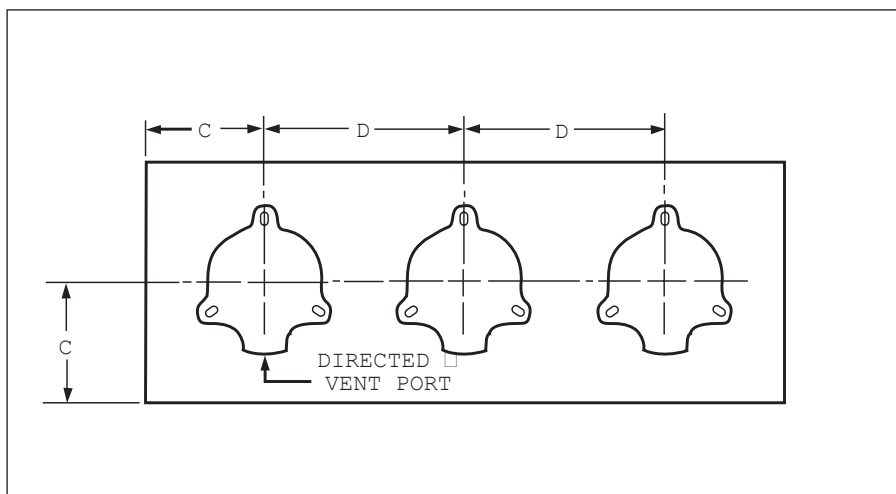
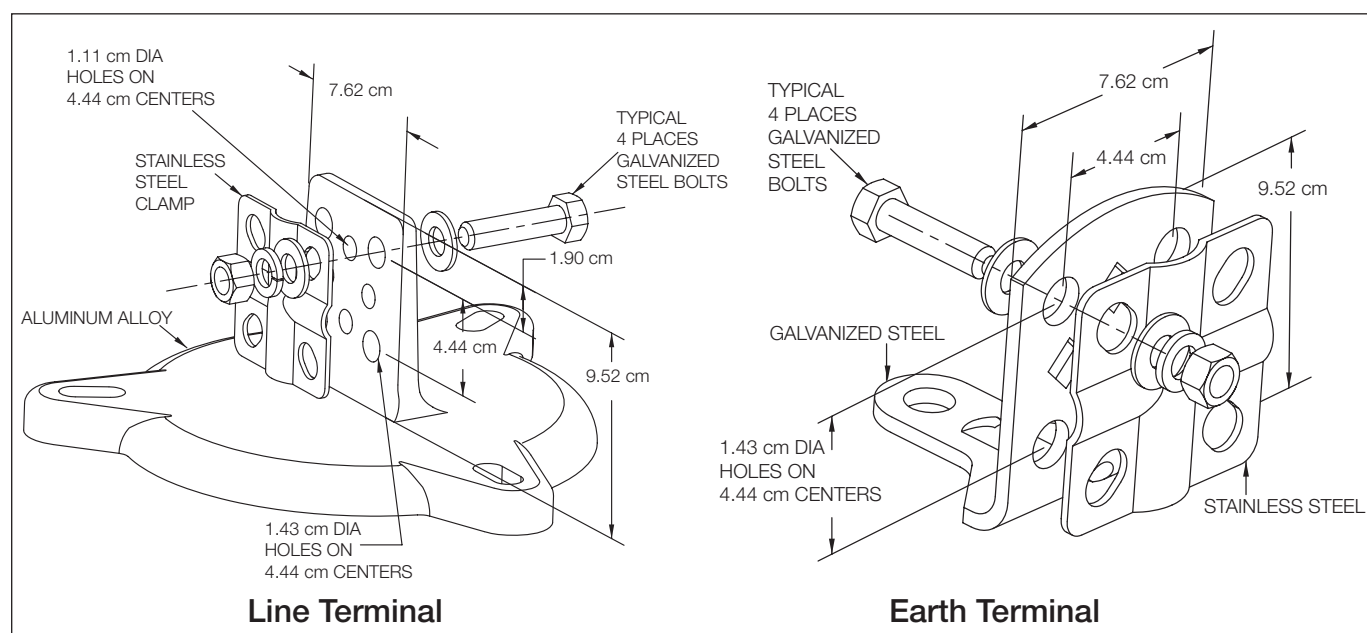
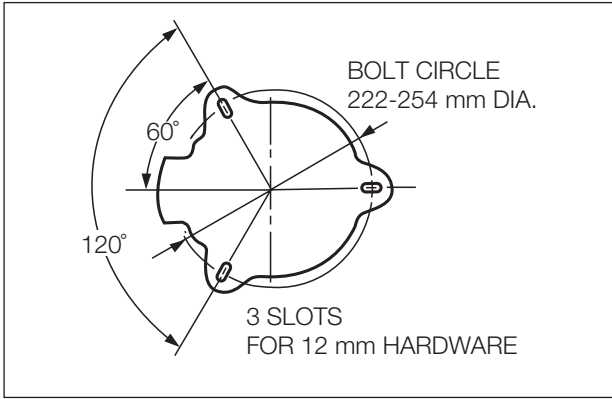
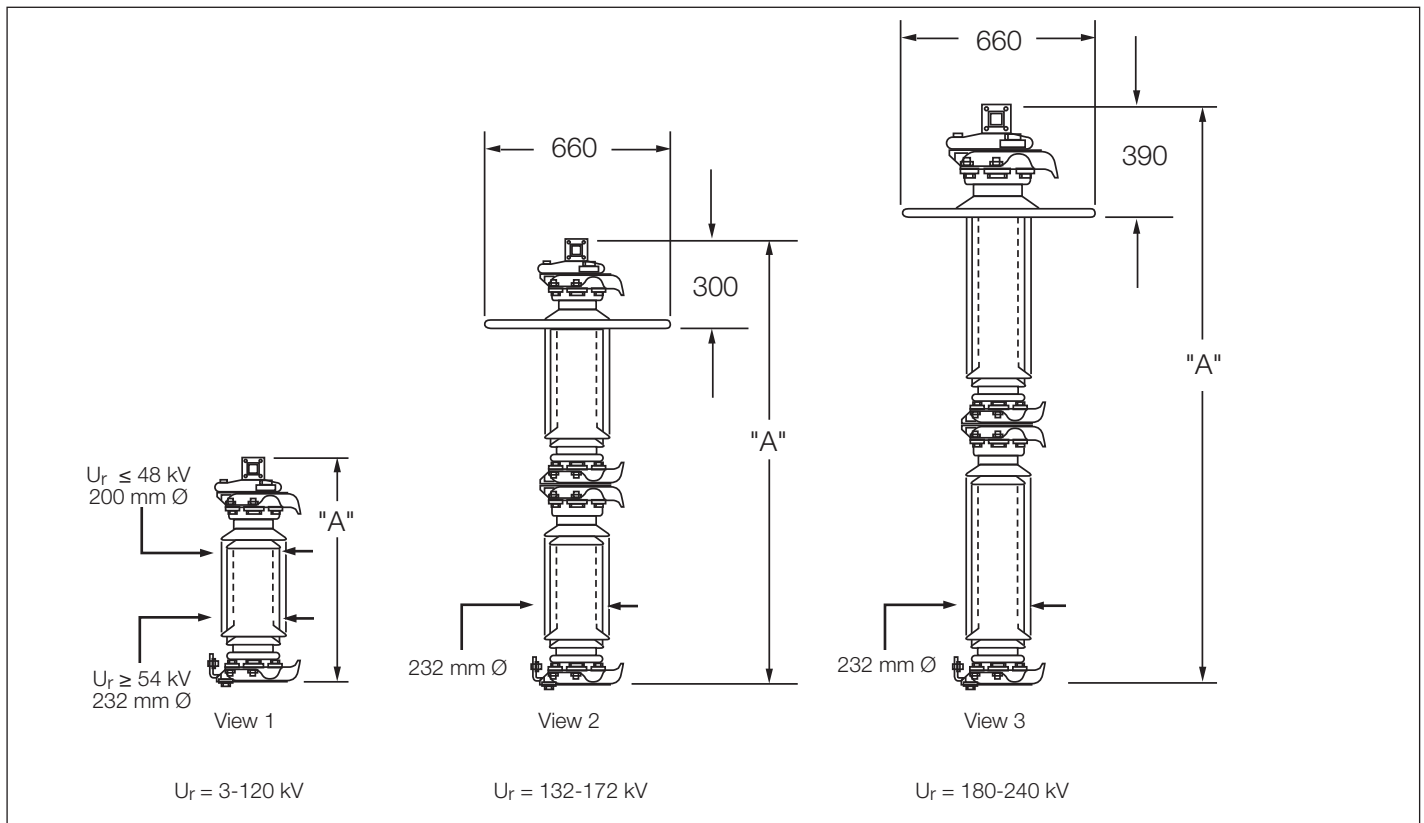

Figure 4.
Figure 5.
Figure 6.
Figure 8.
Figure 4 illustrates an in-line mounting arrangement; the applicable values of “C” and “D” may be found in Table 5. Line and earth terminal details are shown in Figure 5; the supplied terminals accommodate aluminum and copper conductors to a maximum size of 335 mm². For other conductors the terminal drilling pattern shown will accommodate industry standard two (2) and four (4) hole flat pad connectors. Figure 6 provides the dimensional details for universal base mounting.
Catalog Numbers and Dimensional Information (See Figures 4 & 8)
- Refer to Figure 4 for illustration of dimensions C and D and Figure 8 for dimension A.